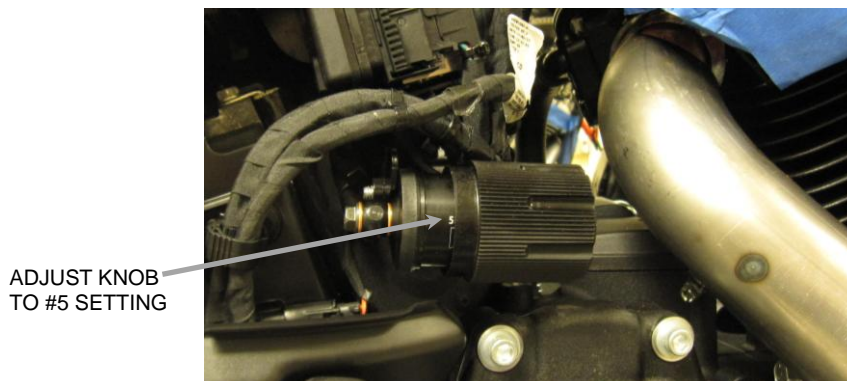

FIGURE 4
16. If the motorcycle is equipped with the knob for the rear mono shock adjustment the knob will need to be adjusted to the #5 setting to gain clearance to install the rear heatshield. Make sure to write down the current setting before adjusting the knob. See **FIGURE 4**.